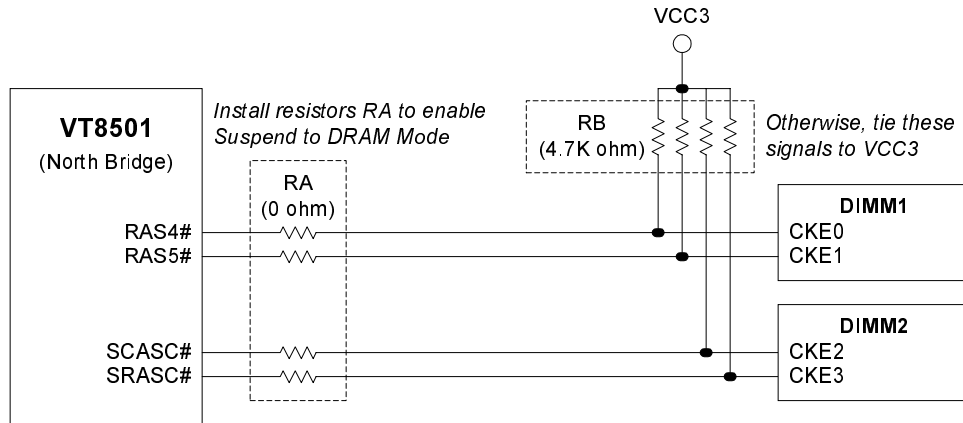

Figure 2-44. Schematic Example of Choosing Suspend to DRAM Mode
A recommended schematic example of choosing Suspend to DRAM mode is shown in Figure 2-44. Only two SDRAM DIMM modules can be selected to implement Suspend to DRAM mode. If the Suspend to DRAM function is not implemented, nets CKE[5..0] of the DIMMs should be tied directly to VCC3 and all resistors (RA) on the left side should be removed. Signals RAS4#, RAS5#, SCASC# and SRASC# are swappable for CKE[3..0]. For example, RAS4# is not fixed for CKE0.